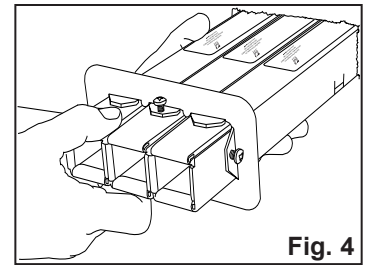

Fig. 4
3. Insert pathways through barrier (with lid gauge marks facing upwards in walls) using previously installed plate and gasket as a stop (See Fig. 4).